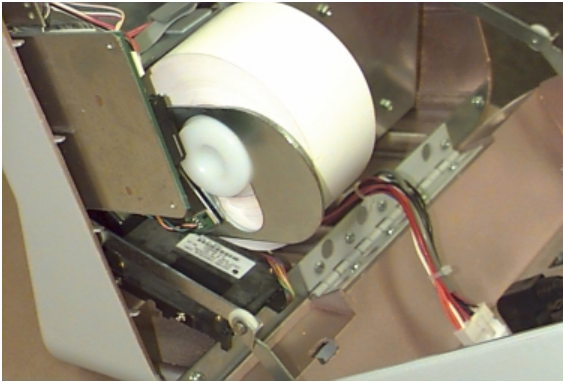
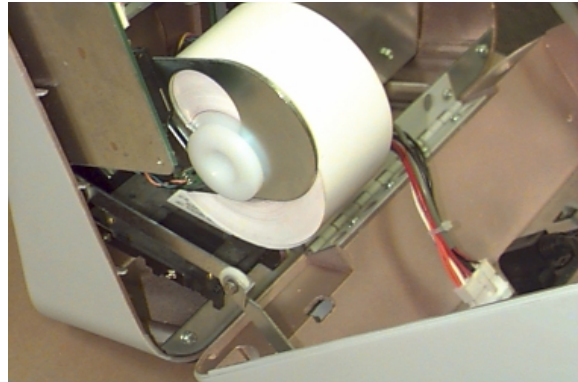

Figure 6-6A. Placing the paper roll and spool on the paper bracket.
Figure 6-6B. Paper roll and spool in place for operation.
- Place the paper roll and paper spool back on the paper bracket by sliding the small slotted end of the spool into the large hole in the bracket as shown in Figure 6-6A. Push the paper and spool into the operating position to lock them in place as seen in Figure 6-6B.